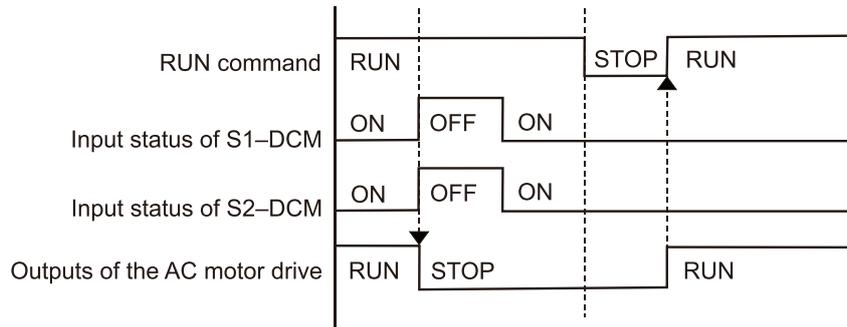

Figure 15-7
When both of S1-DCM and S2-DCM are OFF during operation (STO function is required), the drive stops outputting. When the S1 / S2 status are restored (ON), the STO warning will be automatically cleared. The drive outputs when the RUN command is given again. See Figure 15-7.